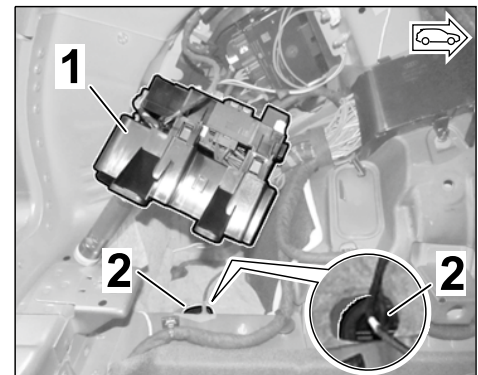

Figure 34
3.3.1 Loosen the fuse box with the holder in the luggage compartment, rear left, and turn it aside (⇒ *Figure 34*, ⇒ *Workshop Manual '978409 fuse box in the luggage compartment*).